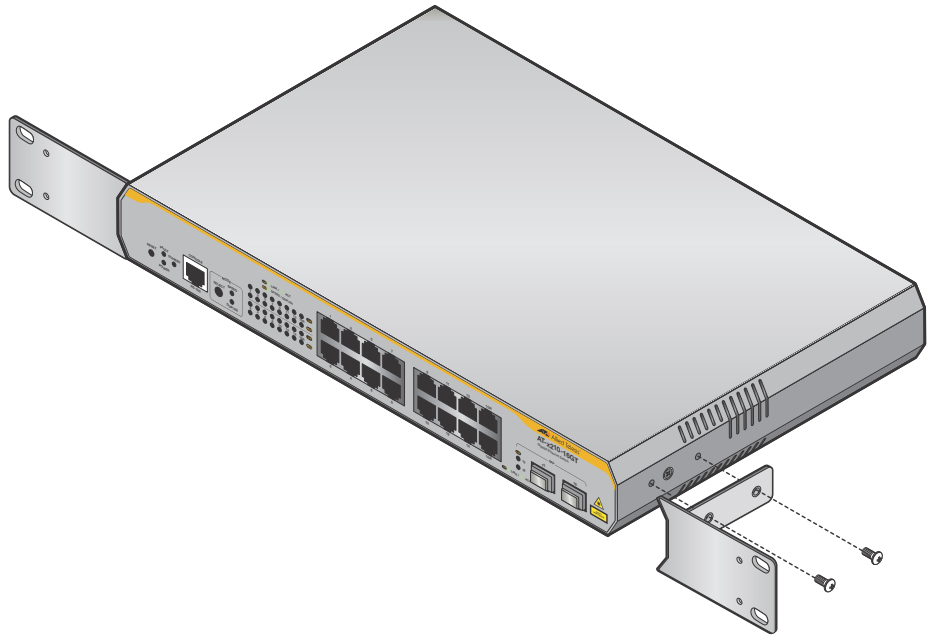
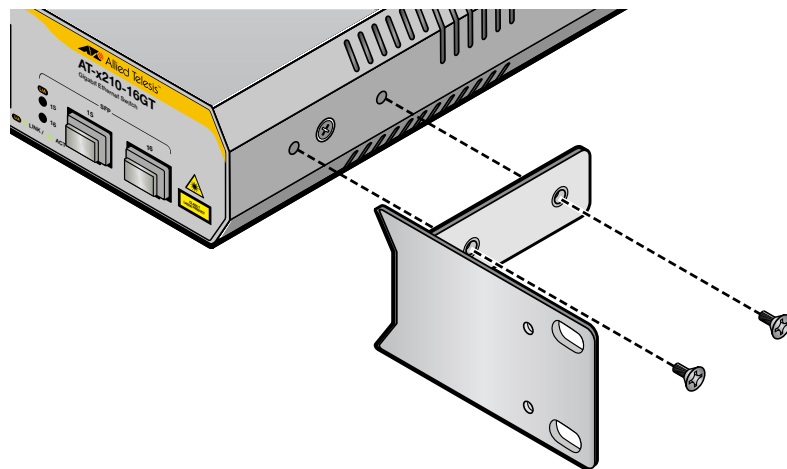

Figure 18. Attaching the brackets level with the front of an AT-x210-16GT
Figure 19. Close up showing a bracket positioned for an AT-x210-9GT
5. For AT-x210-16GT Switches, attach the two rack mount brackets to the sides of the switch using the bracket screws that come with the unit. See the bracket position as shown in Figure 18 and Figure 19.